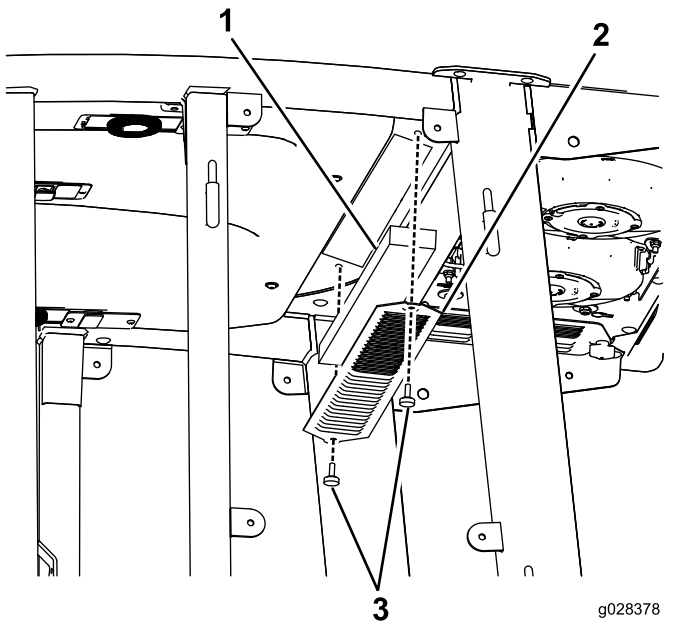
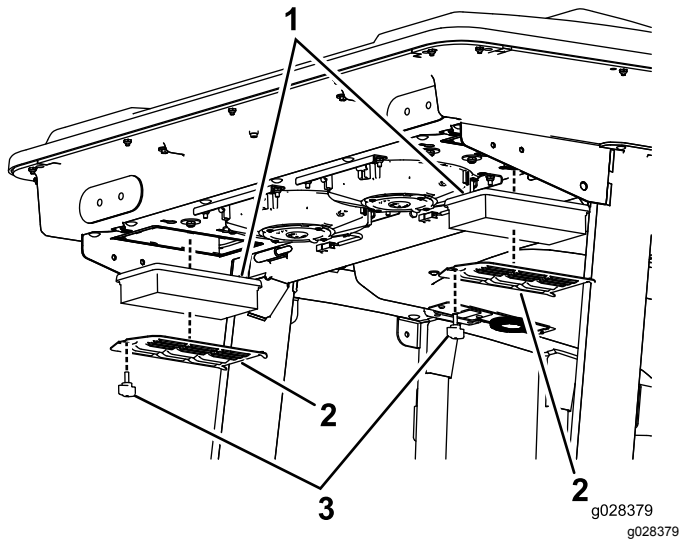

Figure 51
Figure 52
1. Remove the screws and grates from both the in-cab and rear cab air filters (Figure 51 and Figure 52).